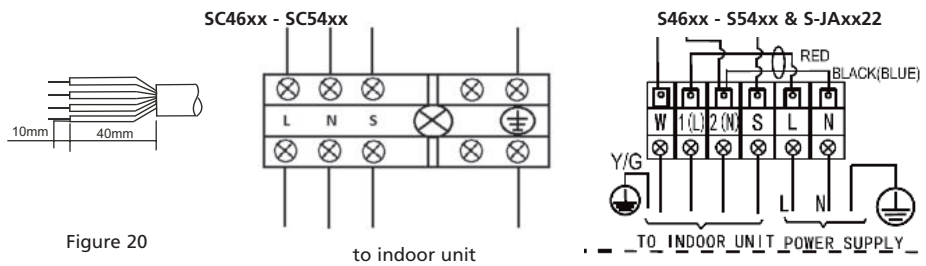

Figure 20
- e. Connect the electrical wires to the terminal strip, for the correct location see fig 20.